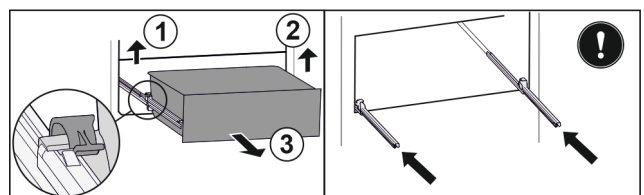

Fig. 165
- Lift left clamp and simultaneously pull drawer forwards on the left. Fig. 165 (1)
- Lift right clamp and simultaneously pull drawer forwards on the right. Fig. 165 (2)
- Remove drawer to the front. Fig. 165 (3)